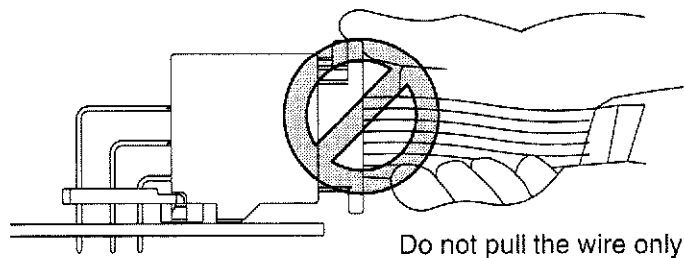

Fig.18
**NOTE** *Do not pull the wire only Fig.18.*